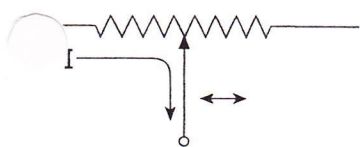
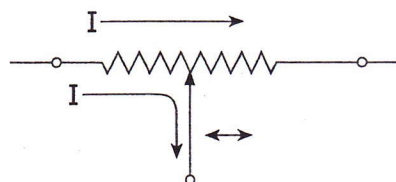

FIGURE 14-28 Rheostat.
FIGURE 14-29 Potentiometer.
**Variable resistors** are designed to have a range of resistances available through two or more taps and a control. Two examples of this type of resistor are **rheostats** and **potentiometers**. Rheostats (Figure 14-28) have two connections, one to the fixed end of a resistor and one to a sliding contact with the resistor. Moving the control moves the sliding contact away from or toward the fixed end tap, increasing or decreasing the resistance. Potentiometers (Figure 14-29) have three connections, one at each end of the resistance and one connected to a sliding contact with the resistor. Moving the control moves the sliding contact away